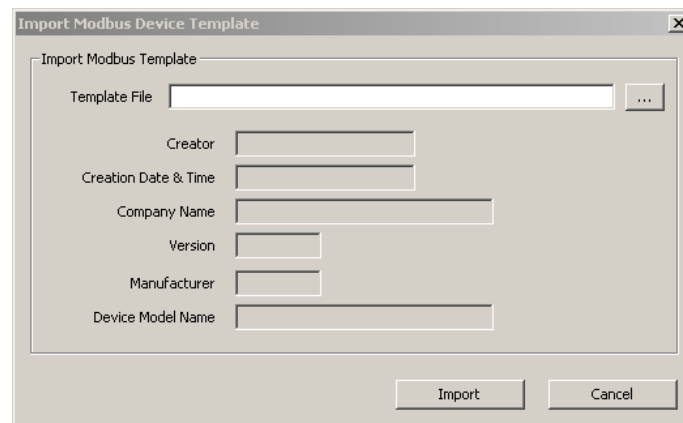

Figure 231 Import Modbus Device Template dialog.
3. Click on the **Create From Template** button. This opens the **Import Modbus Device Template** dialog shown in Figure 231.
- Click on the **Create with DP** button. This opens the **Import Modbus Device Template** dialog shown in Figure 231.